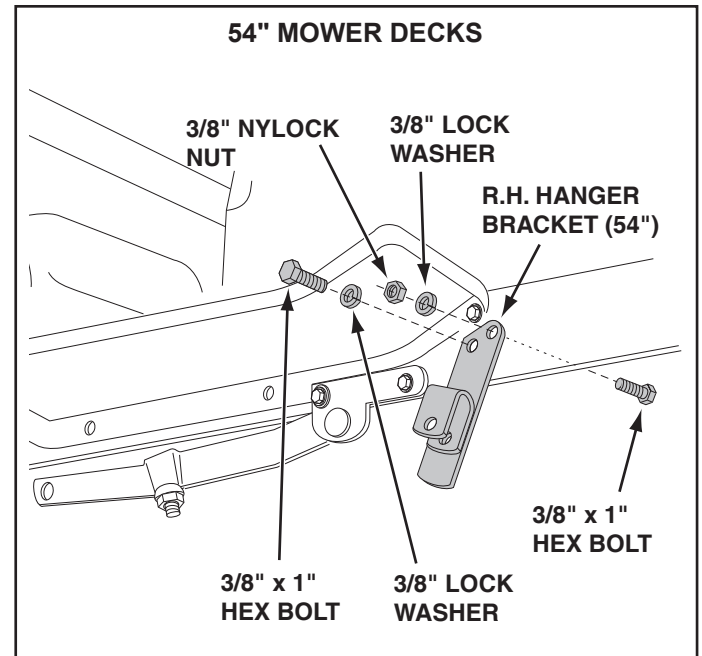

**FIGURE 8 RIGHT SIDE VIEW**
**STEP 8: (SEE FIGURE 8)**
- Assemble a shoulder bolt (P) and a 3/8" flanged nut (BB) (both supplied with the snow thrower) to the frame bracket.